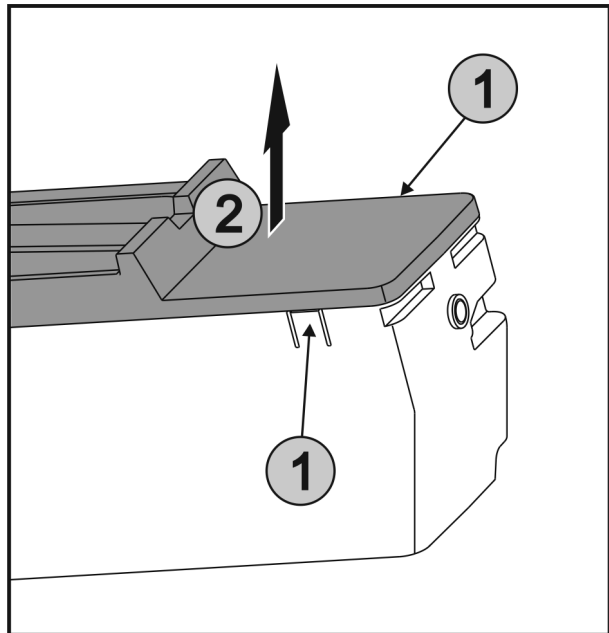

Fig. 31
- ▶ Press the lugs *Fig. 31 (1)* on both sides of the EasyTwist-Ice simultaneously and take off the cover *Fig. 31 (2)* upwards.